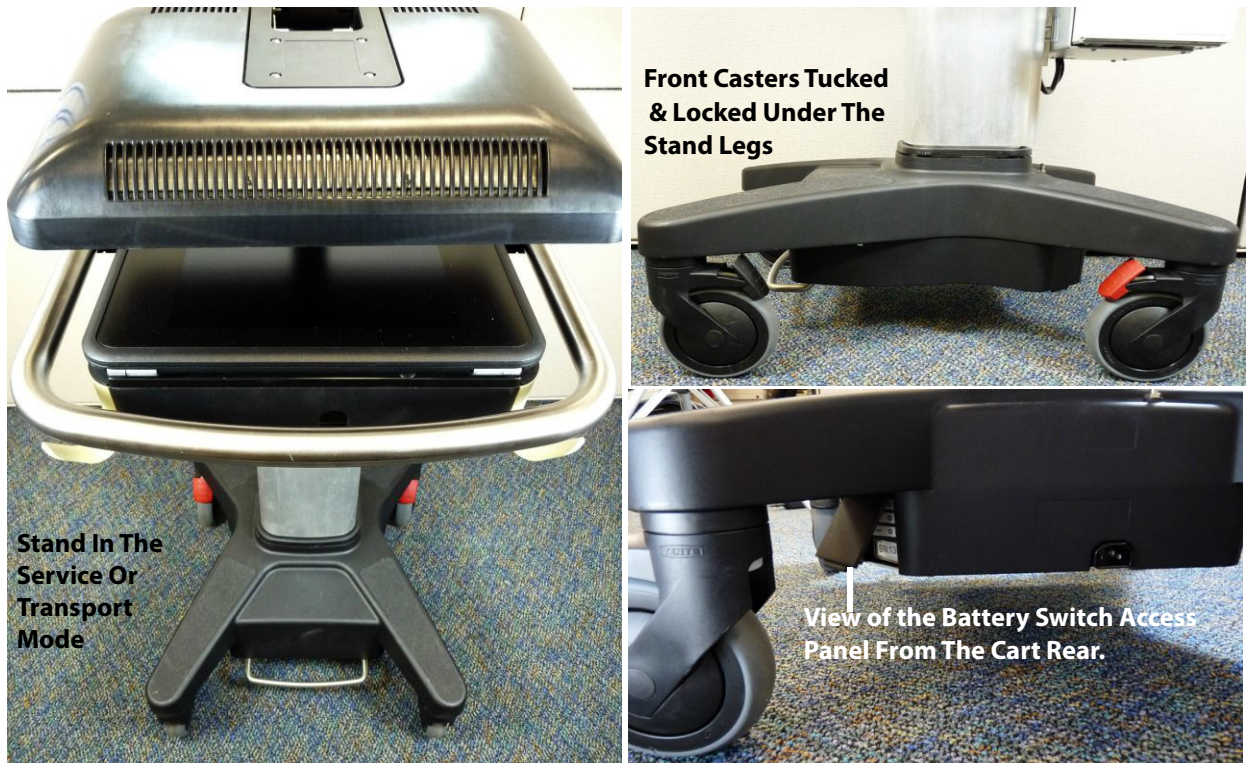
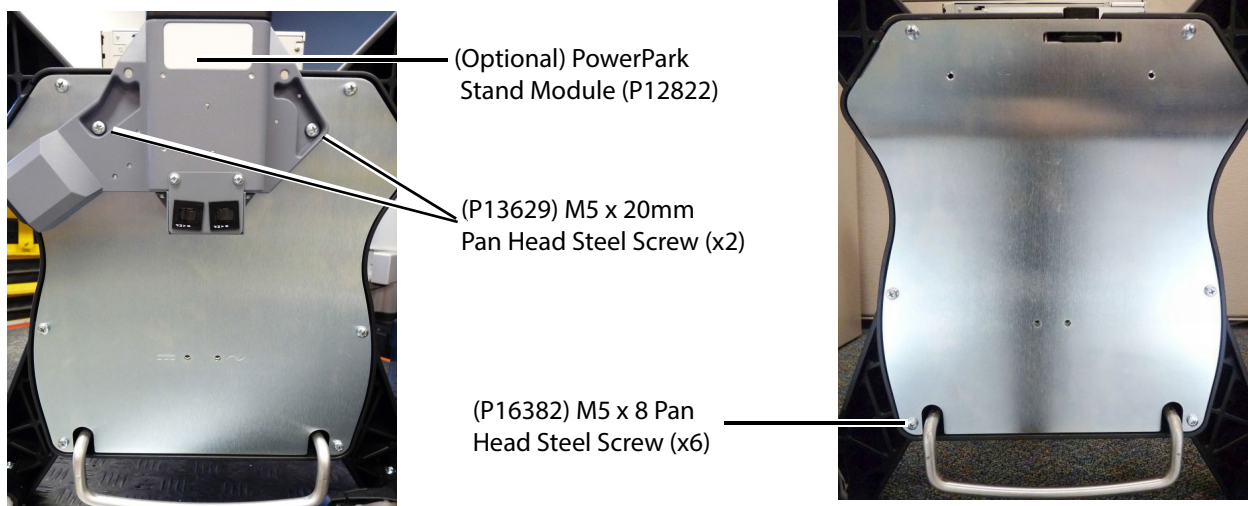

Figure 6.10 Stand Adjusted for Service or Transport
Figure 6.12 Stand Bottom Plate
- 5 Position the touch Control Panel to the horizontal (shipping position). Refer to Figure 6.10 on page 43.
- 6 Fold the Clinical Monitor display to the horizontal (shipping position). Refer to Figure 6.10 on page 43.
- 8 Position the two front casters under the stand caster legs and lock all four casters. Refer to Figure 6.10 on page 43.
- 9 Access the three battery switches and set all switches to the “•O” (OFF) position. Refer to Figure 6.10 on page 43.
- 11 Remove the PowerPark Stand Module two mounting M5 x 20mm (P13629)Phillips screws. This is an optional feature and may not be present on your stand. Refer to Figure 6.12 on page 44
- 12 Remove the six M5 x 8 (P16382) Phillip screws securing the bottom plate and remove the plate. Refer to Figure 6.12 on page 44
- 1 Please refer to section in this chapter titled “Stand Power Management Unit (SPMU) Removal” and follow steps 1 through 11. Please refer to Figure 6.10 on page 43, Figure 6.11 on page 43, and Figure 6.12 on page 44
- 2 Access the three battery switches and set all switches to the “**●**” (ON) position. Refer to Figure 6.10 on page 43
- 2 Access the three battery switches and set all switches to the “**●**” (OFF) position. Refer to Figure 6.10 on page 43.
- 2 Access the three battery switches and set all switches to the “**ⓘ**” (ON) position. Refer to Figure 6.10 on page 43.